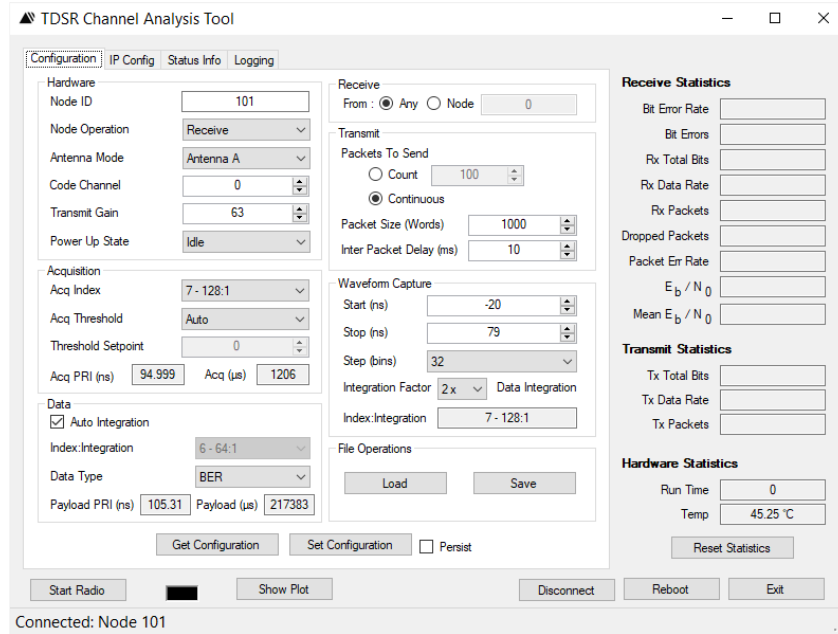

Fig. 10: MRM connected to the P452
3. If the connection is successful, click the **Connect!** button. The main operating window will open (**Figure 10**). Several messages should appear in the status window at the bottom of the screen. The final line should read “Status Info Get: Successful.”